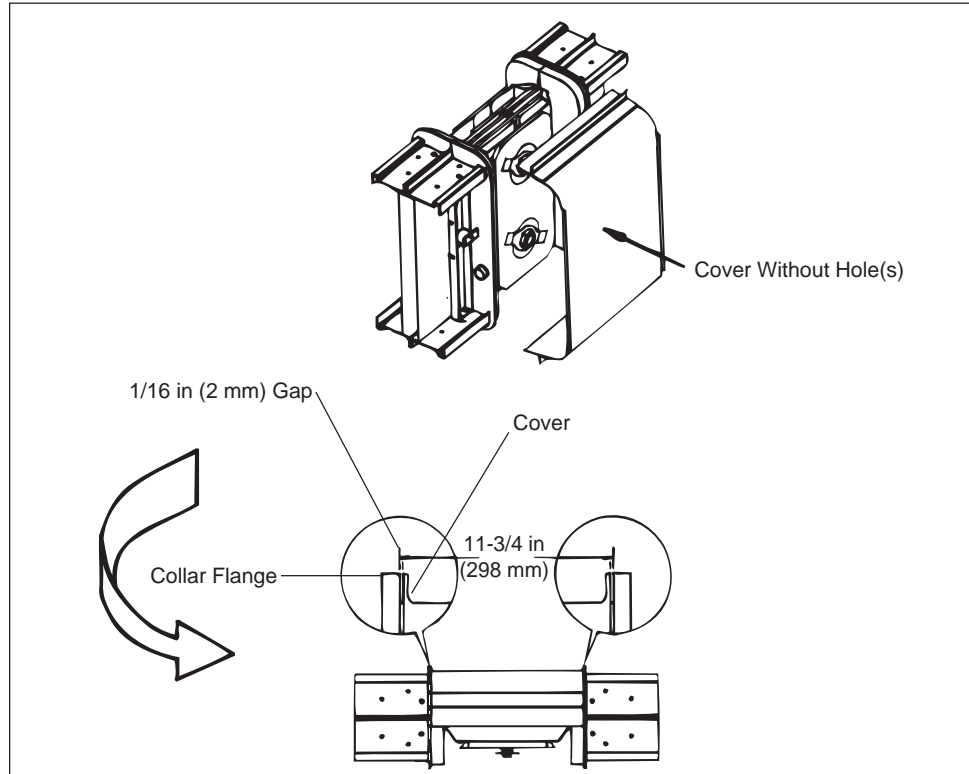

Figure 11
2. Align the joint using the cover (figure 11).
Use the cover without the hole(s) for alignment. Check dimensions shown in figure 11 below. Allow a 1/16 in (2 mm) gap between cover and collar. (Leave the cover on to aid in subsequent steps).
To ensure the proper alignment shown in figure 11, leave the cover on while tightening joint bolts. Torque with an 18 in (457 mm) or longer handle socket wrench until the outer VISI-TITE® bolt head twists off and the red disc falls away. Remove the cover.